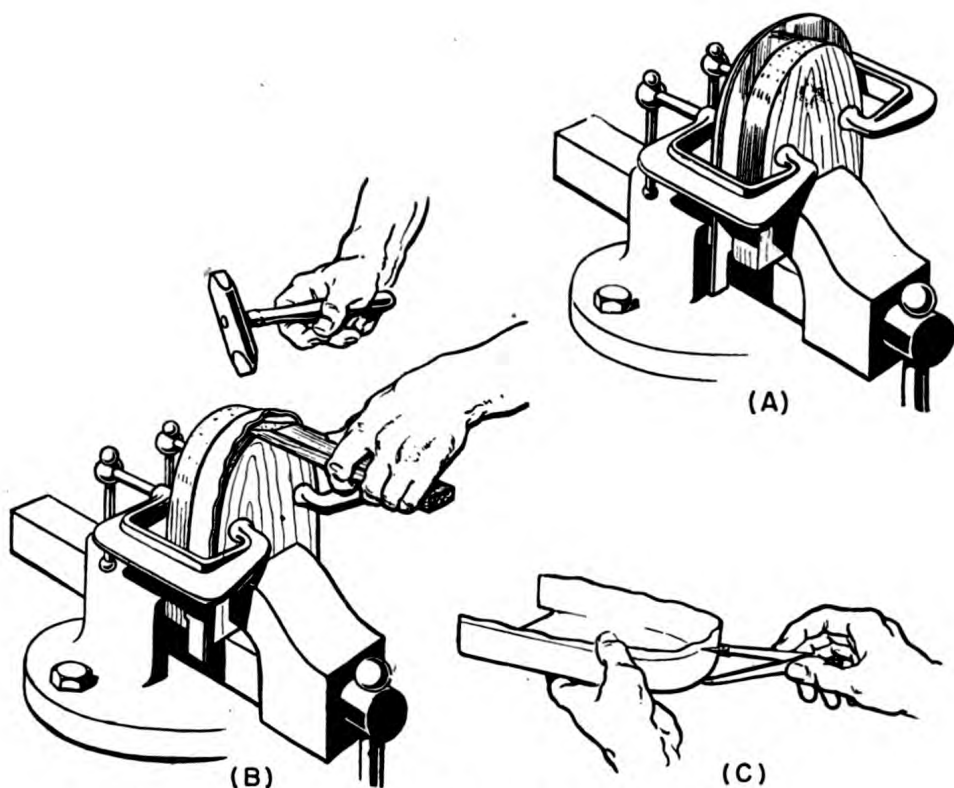

Figure 54.—Forming a flange.
Next, lock the metal between the two form blocks, using clamps. Be sure the guide lines are even with the edge of the blocks. You can hold the blocks and metal firm by putting them in a vise, as (A) in figure 54 indicates.
In completing the curved portion of the flange, you will have to use a wedged wooden block with your cross peen mallet. Figure 54 (B) shows how this is accomplished, and it indicates the shape of the wedge block.